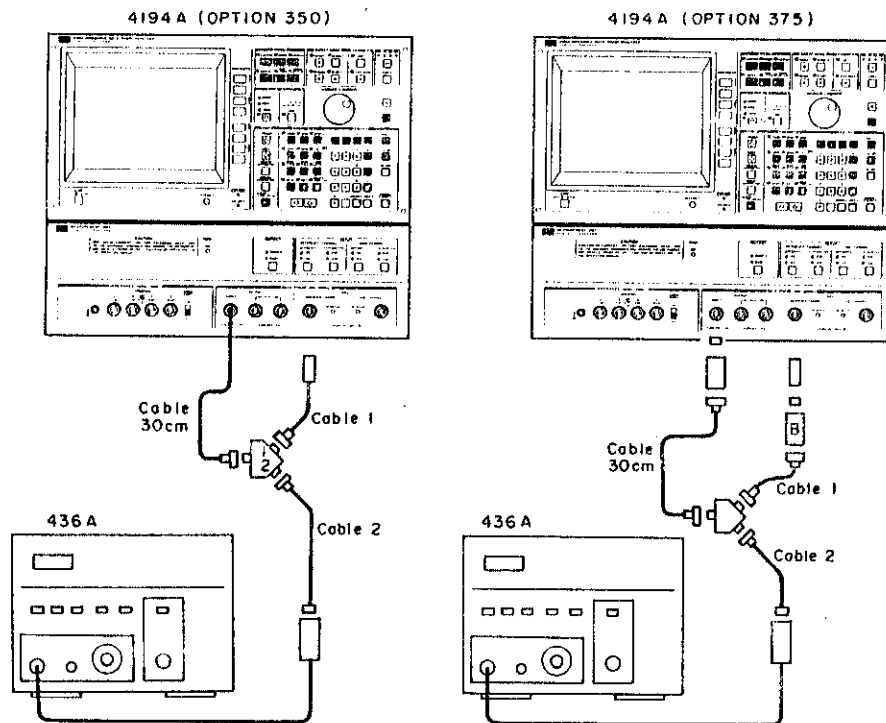

Figure 4-18. Amplitude Measurement Accuracy Test Setup 4.
1. Connect the appropriate (50 Ω or 75 Ω) feedthrough termination to the REFERENCE CHANNEL as shown in Figure 4-18.